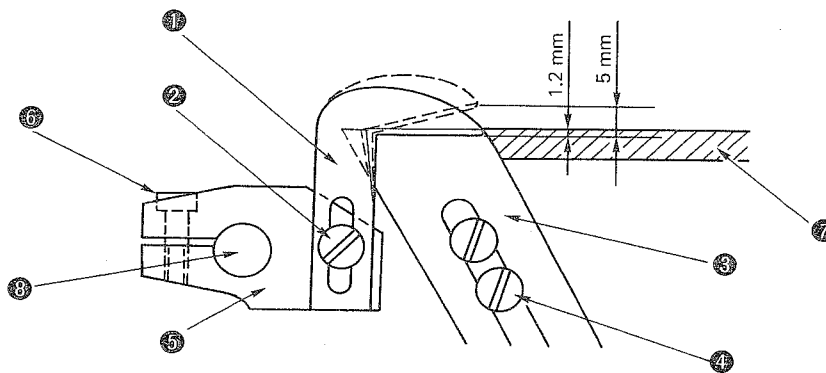

Fig. IV-2-1
When the feed mechanism of the machine stops, the knife will cut the material. When the feed mechanism of the machine is actuated, upper knife ① goes up to allow the material to be fed smoothly. Adjust so that upper knife ① is brought to the highest position of its stroke when the needle bar of the main unit of the sewing machine is in its highest position. (See Fig. IV-2-1)
The actuating position of upper knife ① can be changed by loosening screw ⑥. Take care not to raise the upper knife ① too much. If the upper knife ① is positioned too high, it may come in contact with lower knife ③. (See Fig. IV-2-1)